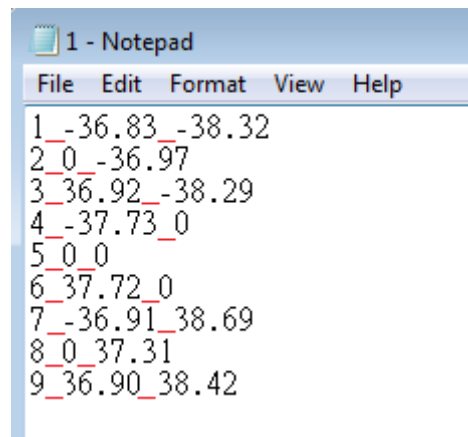

Fig. 1.1.51
**From File...** Users can create a \*.txt file as a correction file and using this function to import that file as the coordinates of X and Y, see Fig.1.1.51.